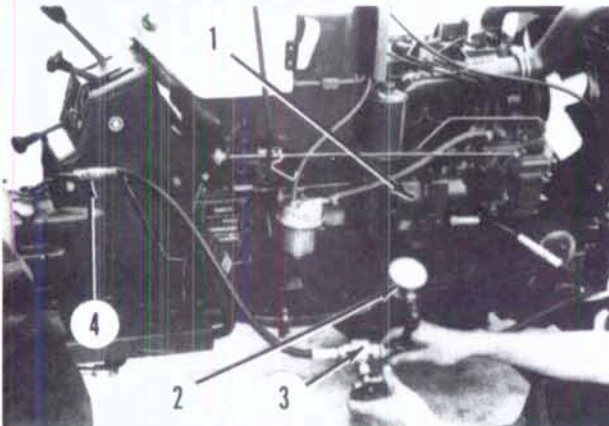

Fig. 40—Pressure gage and flow control valve connected to check hydraulic pump discharge pressure on Models L235, L275 and L305.
19. PRESSURE TEST. To check pump discharge pressure, disconnect pump pressure outlet pipe and connect a 20000 kPa (3000 psi) pressure gage with flow control valve as shown in Fig. 40 or 41. Direct return hose from flow control valve back into reservoir.